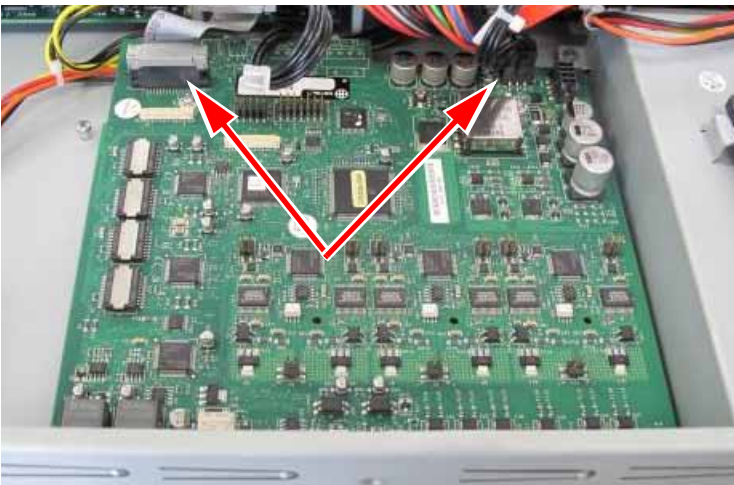

Figure 44: AMB - Disconnect Cables
3. Remove the AMB as follows referring to Figure 44: